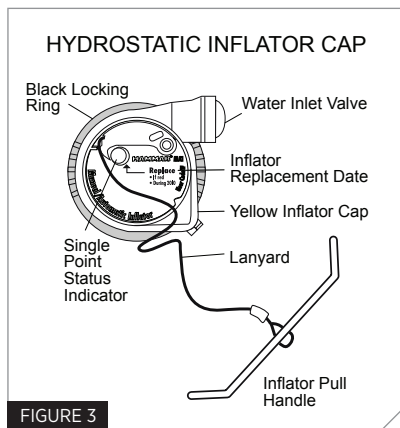

FIGURE 3
1. Is the status indicator green? Through the window panel on the front of your PFD, check the status indicator on the hydrostatic inflator to ensure it is green (Fig. 3). If the indicator is red, the mechanism has been fired. Re-arm your PFD before proceeding (see Re-arming, p. 19).
2. Is the date on the inflator cap still in the future? If the date on the inflator cap (Fig. 3) has already passed, replace the inflation equipment before proceeding (see Re-arming, p. 19).